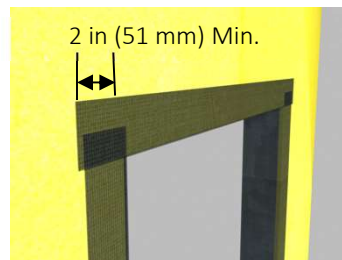

Fig. 4
- 5) Install the AquaFlash System at the head overlapping the jamb pieces a minimum of 2 in (51 mm) – **Figure 4.**